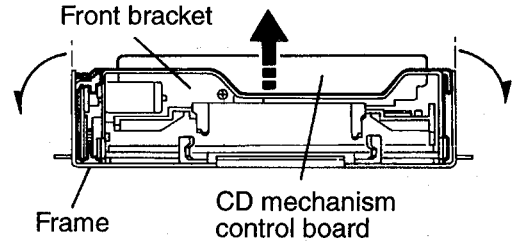
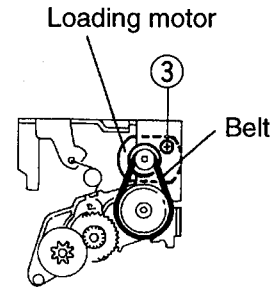

Fig. 14
Fig. 15
CAUTION: Remove the front bracket from the frame while expanding both sides of the frame as shown in Fig. 14
1. Remove the belt from the loading motor (See Fig. 14 and Fig. 15)
2. Remove the one screw ③ retaining the loading motor (See Fig. 15)